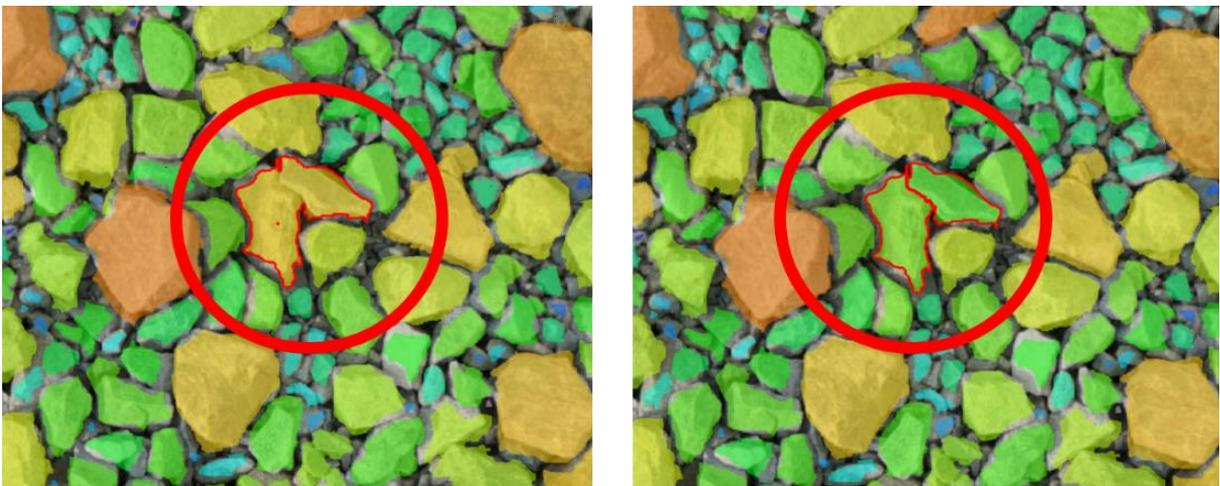

Figure 16: Splitting a fragment into two fragments
1. “*Split Fragment*” splits a fragment into two particles. Activate in the corresponding icon  in the toolbar and click on two different positions on the fragment (see Figure 16). “*Split Fragment*” considers the properties of the texture in the fragment’s texture patch. The split will be applied along the most prominent texture features of the fragment’s patch between the two clicked points. If a particular split line shall be preferred, it is recommended to click close to this split line on either side.